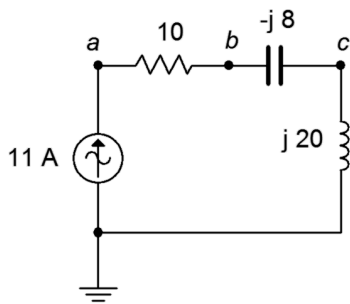

Figure 2.31
49. For the circuit of Figure 2.31, determine the voltages across each component.